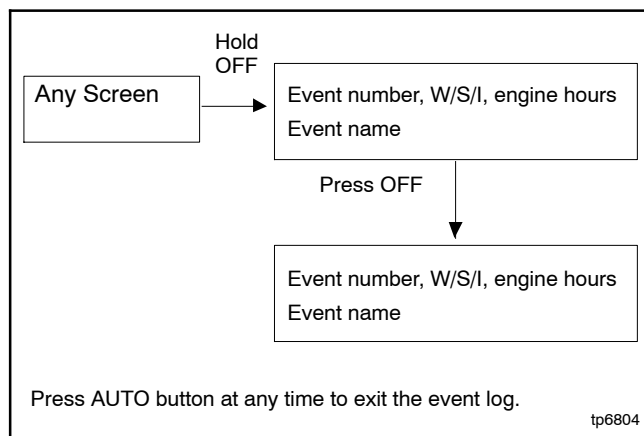

Figure 5-12 Event Log
The event log displays up to 10 controller faults and notices, starting with the most recent event. Events are numbered 1 - 10, with 1 being the most recent. Each event is displayed with the date and time of the event, the number of the event, a letter to indicate whether the event was a warning (W), shutdown (S), or informational notice (I), the engine hours at the time of the event, and the event description. See Figure 5-12.